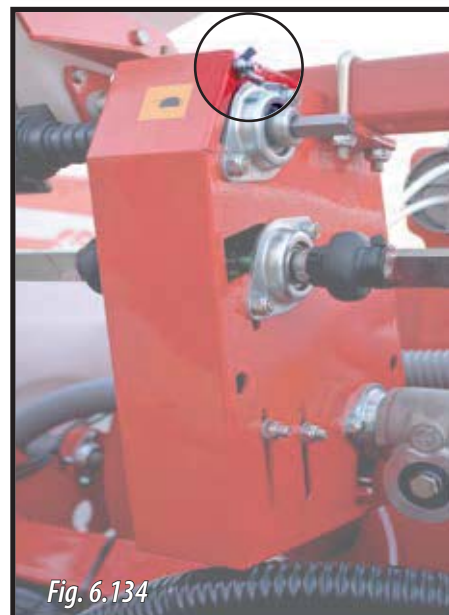

Fig. 6.134
- 1- Remove the wing nut and the upper screw of the drive's lid (Fig. 6.134).